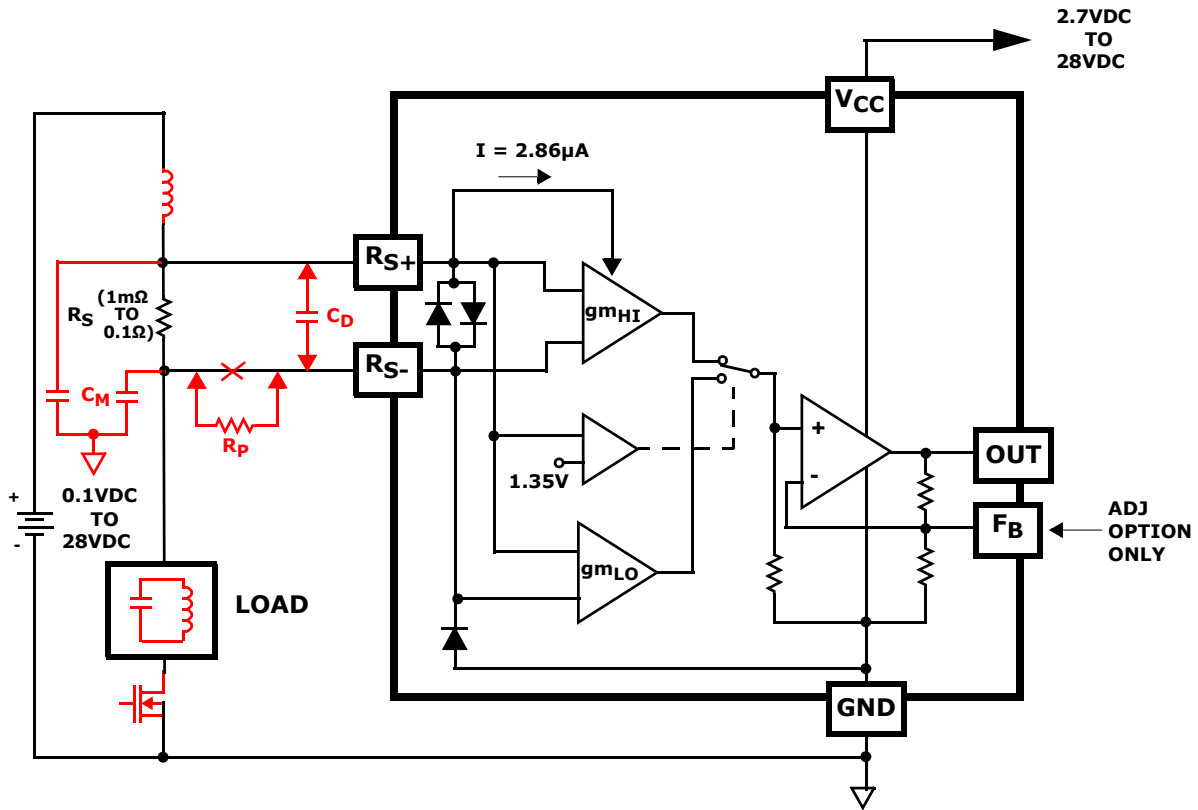

FIGURE 56. TYPICAL APPLICATION CIRCUIT
Figure 56 shows the basic application circuit and optional protection components for switched-load applications. For applications where the load and the power source is permanently connected, only an external sense resistor is needed. For applications where fast transients are caused by hot plugging the source or load, external protection components may be needed. The external current limiting resistor (RP) in Figure 56 may be required to limit the peak current through the internal ESD diodes to < 20mA. This condition can occur in applications that experience high levels of in-rush current causing high peak voltages that can damage the internal ESD diodes. An RP resistor value of 100Ω will provide protection for a 2V transient with the maximum of 20mA